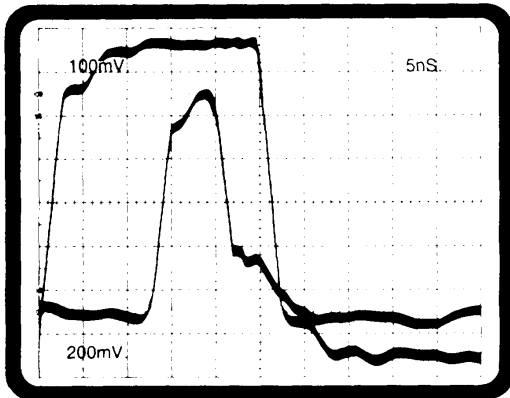

Figure 5-63. 338 Glitch data acquisition test waveform #1.
1. Set the pulse generator according to Table 5-24 and Figure 5-63.